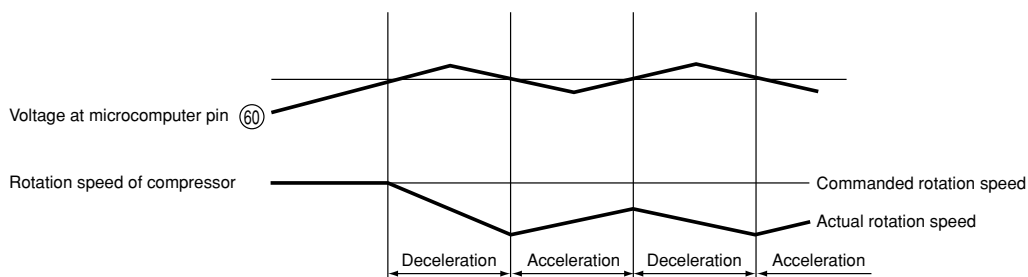

Fig. 8-7
- Fig. 8-7 shows the rotation speed control. When the voltage at pin ⑥ of the microcomputer exceeds the set value, the microcomputer decreases the rotation speed of the compressor and reduces the load regardless of the rotation speed commanded by the indoor microcomputer.